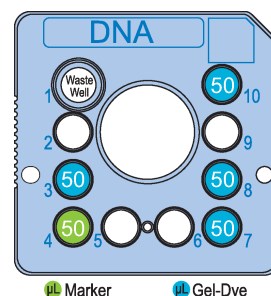
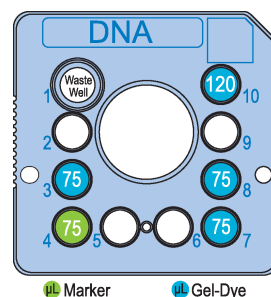

Figure 1. Low-throughput
Figure 2. High-throughput
4. Using a Reverse Pipetting Technique add gel-dye to chip well 3, 7, 8 and 10 as shown in **Figure 1 (Low-throughput) or Figure 2 (High-throughput).**
5. Add DNA HiSens Marker  to chip well 4 as shown in **Figure 1 (Low-throughput) or Figure 2 (High-throughput).**